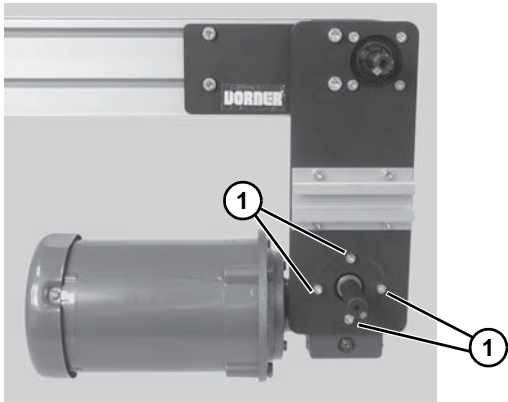

Figure 20
5. Remove four (4) gear reducer mounting screws (**Figure 20, item 1**). Remove gearmotor.
15. Install gearmotor to mounting bracket and tighten screws (Figure 20, item 1) to 110 in-lb (12 Nm).